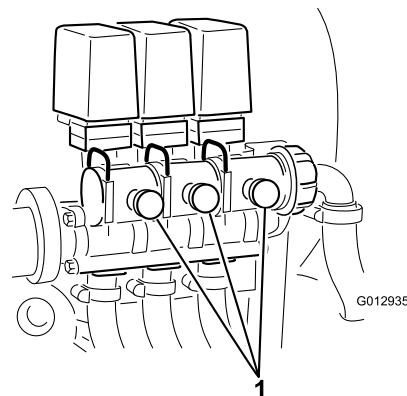

Figure 30
- Adjust the boom bypass valve (Figure 30) on the boom control valve for the boom you turned off until the pressure reading on the gauge is the same as it was in step 9.